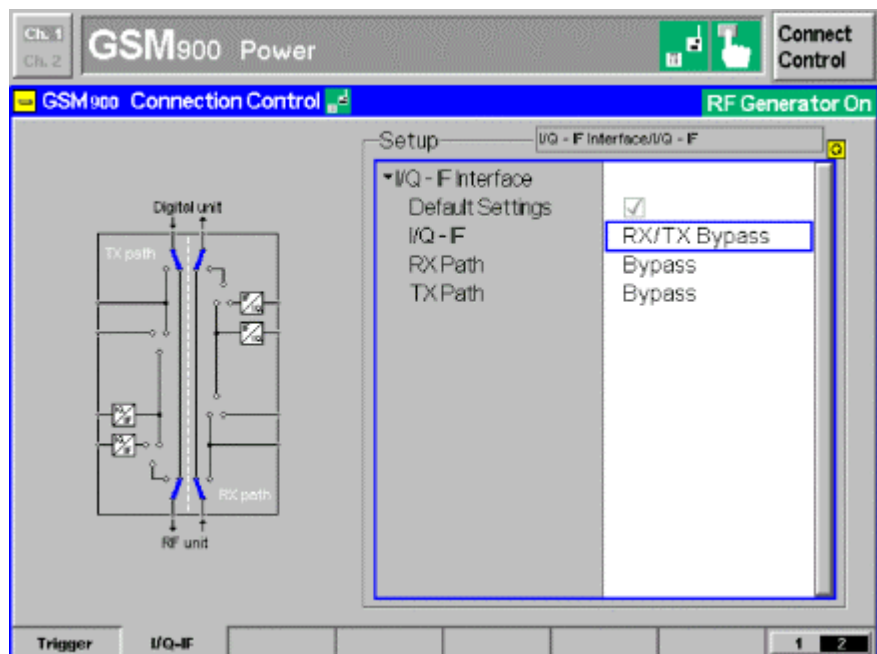
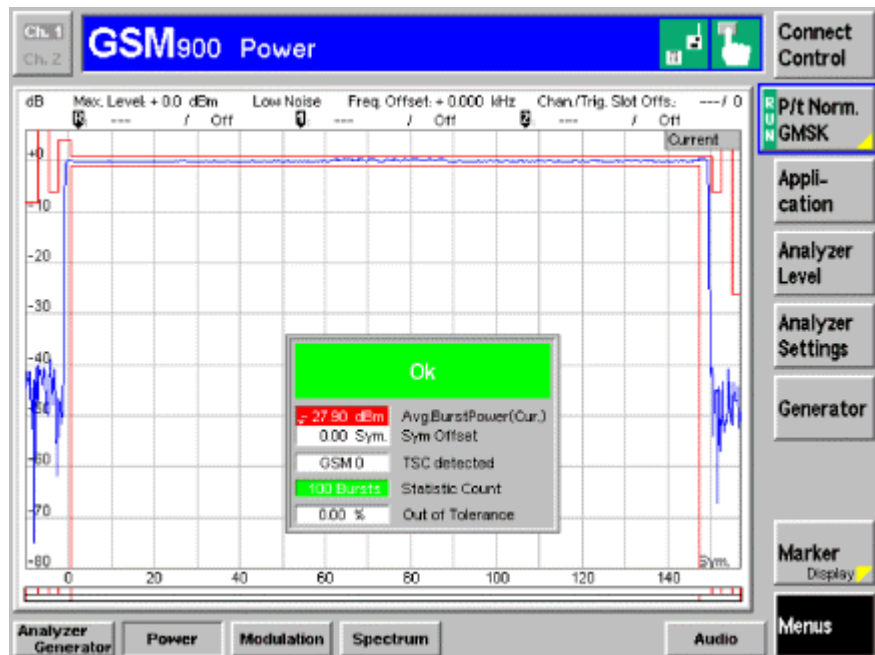

Fig. 8 IQ/IF Bypass Configuration
Fig. 9 Burst Power in Bypass Mode
4. Set the IQ/IF board to Bypass mode (Fig.8) in order to obtain the reference Average Burst Power **PREF** (Fig.9).